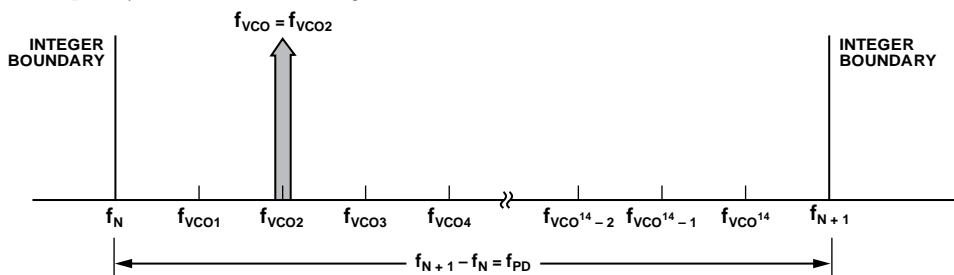

Figure 46. Exact Frequency Tuning
f_{VCOk} is the channel step frequency. $0 < k < 2^{24} - 1$, as shown in Figure 46.
Some fractional PLLs are able to achieve these exact frequencies by adjusting (shortening) the length of the phase accumulator (the denominator or the modulus of the Σ - Δ modulator) so that the Σ - Δ modulator phase accumulator repeats at an exact period related to the interval frequency ($f_{VCOk} - f_{VCO(k-1)}$) in Figure 46. Consequently, the shortened accumulator results in more frequent repeating patterns and, as a result, often leads to spurious emissions at multiples of the repeating pattern period, or at harmonic frequencies of $f_{VCOk} - f_{VCO(k-1)}$. For example, in some applications, these intervals may represent the spacing between radio channels, with the spurious occurring at multiples of the channel spacing.
When multiple, equally spaced, exact frequency channels are needed that fall within the same interval (that is, $f_N \leq f_{VCOk} < f_{N+1}$), where f_{VCOk} is shown in Figure 46 and $1 \leq k \leq 2^{14}$, it is possible to maintain the same integer-N (Register 0x03) and exact frequency register (Register 0x0C) settings and only update the fractional register (Register 0x04) setting. The exact frequency channel mode is possible when Equation 16 is satisfied for at least two equally spaced adjacent frequency channels, that is, the channel step size.
To configure the HMC832A for exact frequency channel mode, initially program the integer (Register 0x03) and the exact frequency (Register 0x0C) for the smallest f_{VCO} frequency (f_{VCO1} in Figure 46), as follows:
- Calculate and program the integer register setting Register 0x03 = $N_{INT} = \text{floor}(f_{VCO1}/f_{PD})$, where f_{VCO1} is shown in Figure 46 and corresponds to the minimum channel VCO frequency. Then, the lower integer boundary frequency is given by $f_N = N_{INT} \times f_{PD}$.
where $f_N = \text{floor}(f_{VCO1}/f_{PD})$, and f_{VCO1} , as shown in Figure 46, represents the smallest channel VCO frequency that is greater than f_N .
4. To change from Channel 1 ($f_{VCO1} = 2800.2 \text{ MHz}$) to Channel 2 ($f_{VCO2} = 2800.3 \text{ MHz}$), only Register 0x04 needs to be programmed, as long as all of the desired exact frequencies, f_{VCOk} (see Figure 46), fall between the same integer-N boundaries ($f_N < f_{VCOk} < f_{N+1}$). In that case,